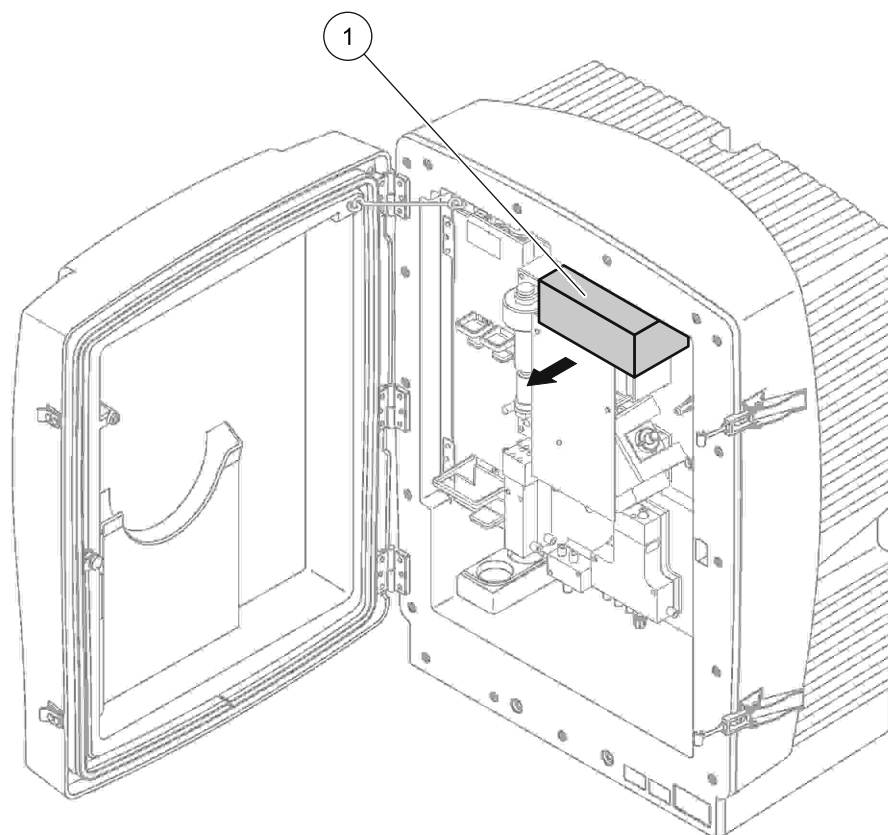

Figure 9 Remove the analyzer panel transport locks
2. Remove the transport lock on the analyzer panel (Figure 9).